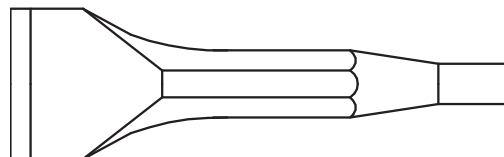

Fig. 17-12
2. Draw the chisel shown in Fig. 17-12 using the **ARC**, **FILLET**, **LINE**, **COPY**, and **MIRROR** commands.